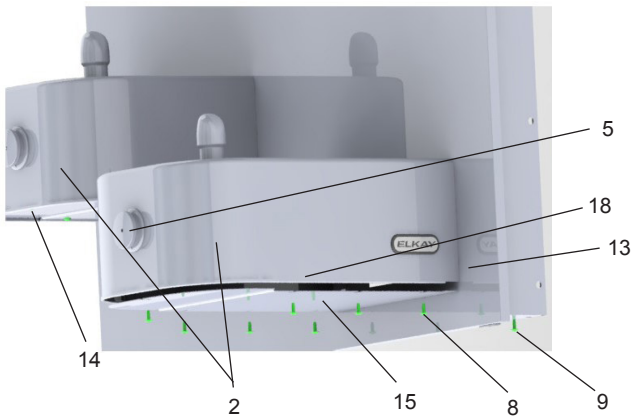

Figure 7 - Upper Panel Installation
7. **Install** the bottom cover plates on fountain (Fig. 7).
8. **Tighten** back panel screws (Item 9 - Fig. 7).